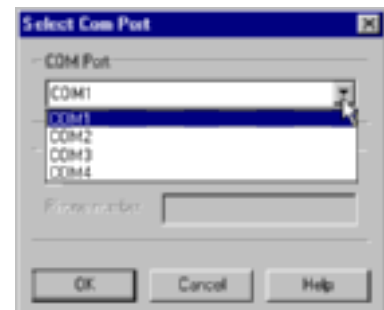

Figure 6 – Select COM Port Dialog
- b) The Select COM Port dialog opens, as pictured in figure 6 on the right.